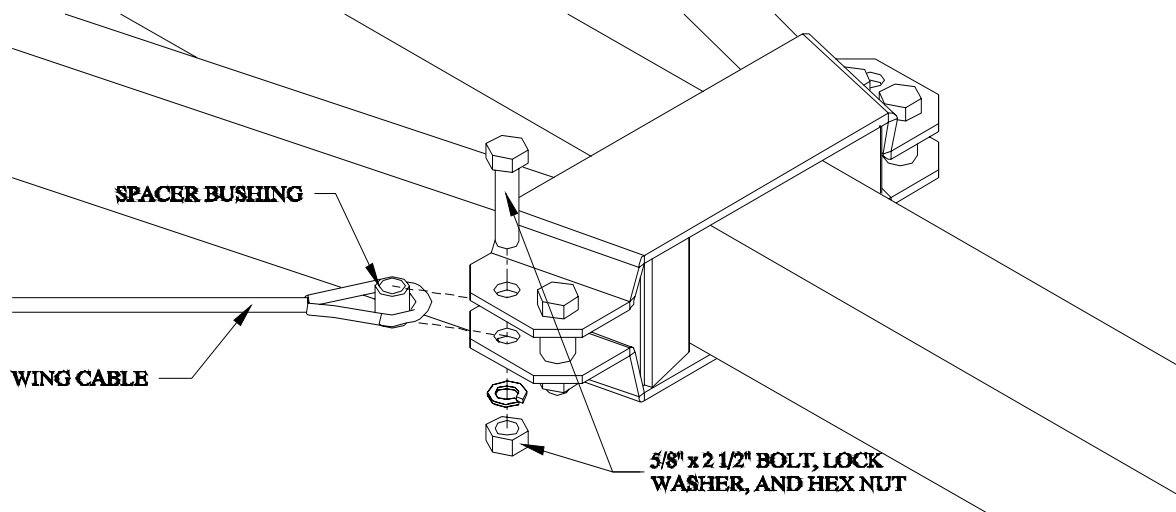

Figure 10
1. Insert 7/8" OD x 5/8" ID x 1" bushings into the ends of the wing cables and bolt them between the hitch caps. Refer to Figure 10. Use a 5/8" x 2 1/2" bolt, lock washer, and hex nut. Tighten all four of the 5/8" bolts on the hitch cap.